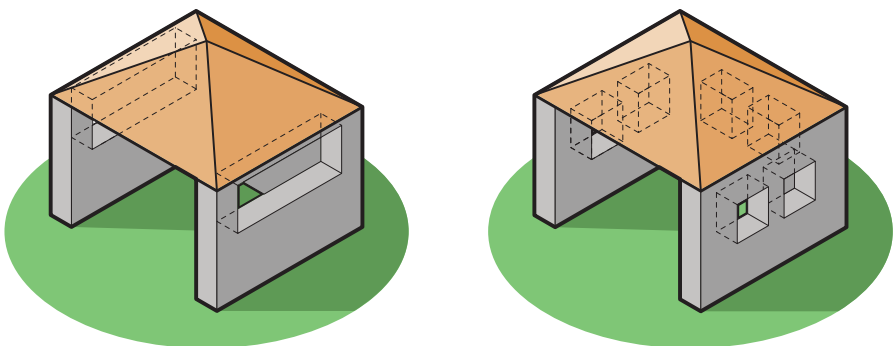

Figure 5: Examples of structures that have one open side, and 30% or more of the remaining wall area open and unobstructed.
- one side open (equal to 25% of the total wall area) and at least 30% of the remaining total wall area open and unrestricted as in figure 5.